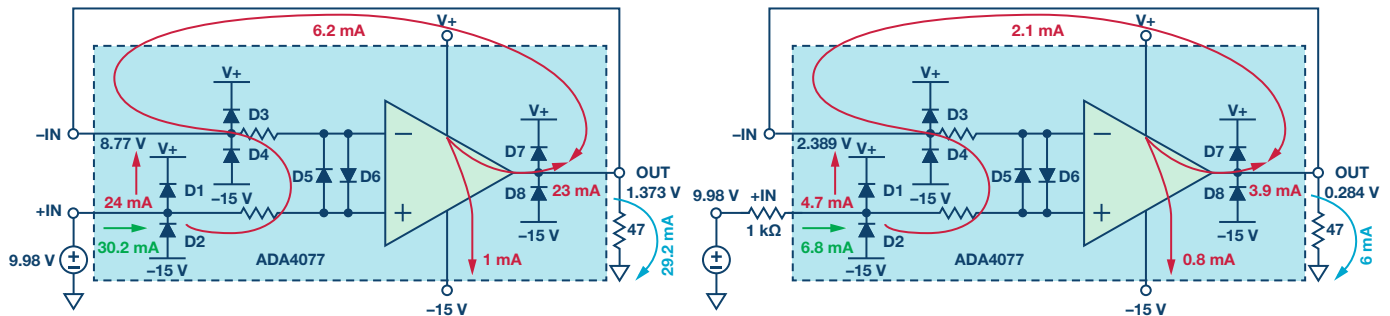

Figure 6. ADA4077 current path when V+ is absent (10 V input and 47 Ω output load).
- ▶ Situation 1: When the input is 10 V and the load of OUT is 47 Ω, the output is 1.373 V. When there is a 23 mA current flow out of the op amp's output pin (refer to Figure 6) the current path is: